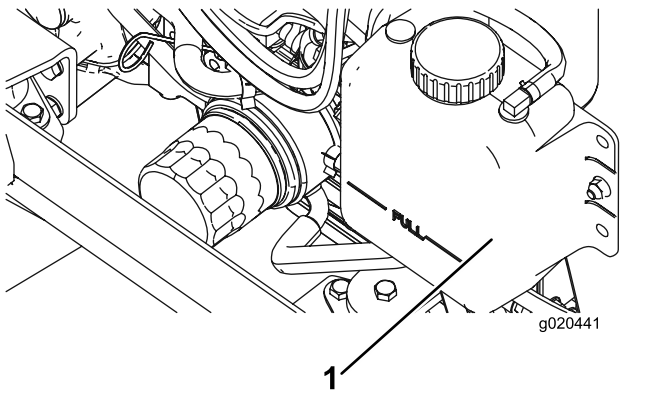

Figure 109
1. Carefully remove the radiator cap and expansion-tank cap (Figure 109).